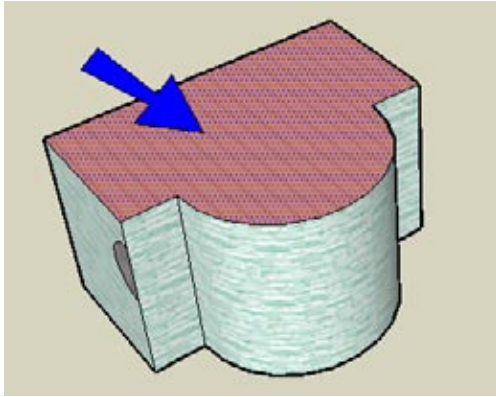

Figure 2-3
1. The path will go around the entire building, so select the top face (Figure 2-3). The edges surrounding this face compose the Follow Me path.